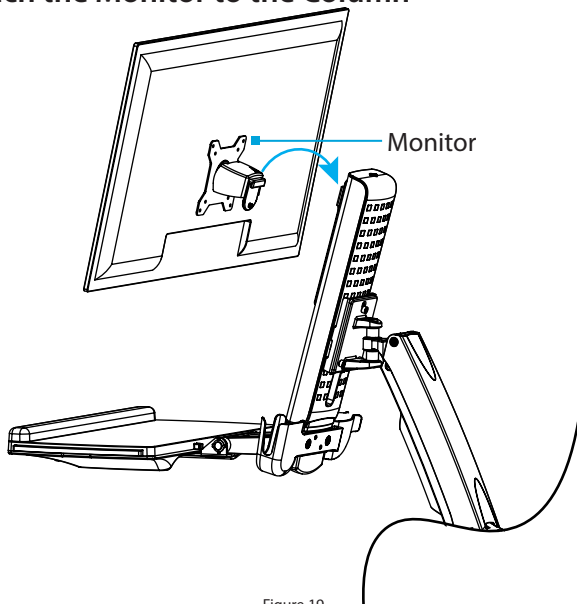

Figure 19
1. Hook the back of the **VESA Monitor Mount** onto the **Plate**, located on the **Column**. (Figure 19)